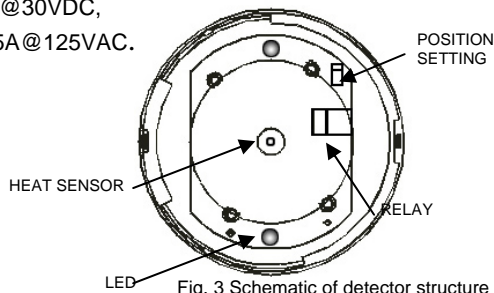

Fig. 3 Schematic of detector structure When front cover is open.
- To adjust the normal condition of the relay to "normally closed" (NC), insert a screwdriver into the rectangular hole located on the side between the front cover and base and rotate to remove the front cover.
- Refer to figure 3. There is a jumper head next to the relay on the PCB. Remove the jumper head and reinsert it in the NC position.